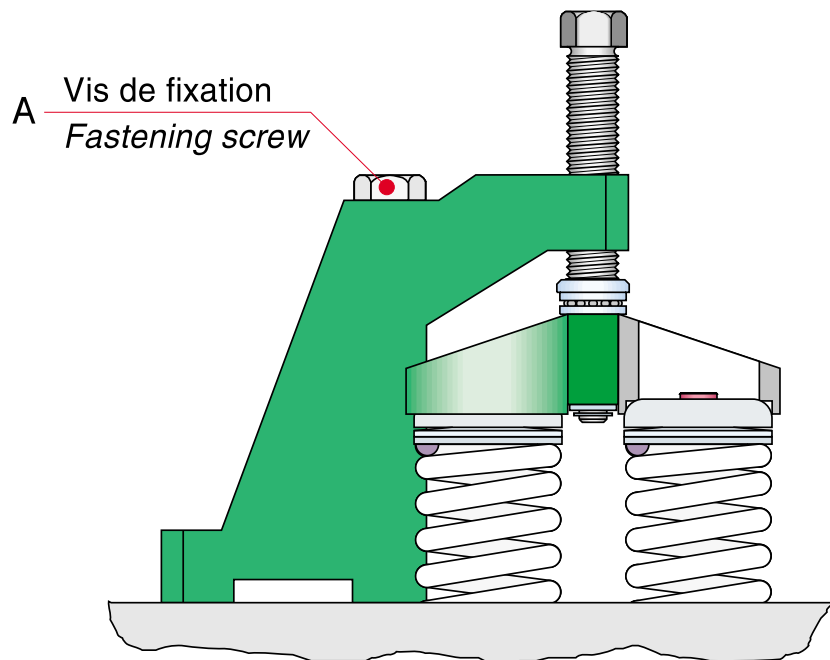

Fig. 12-7
- 3 Fit the tool 846010 according to Fig. 12-7